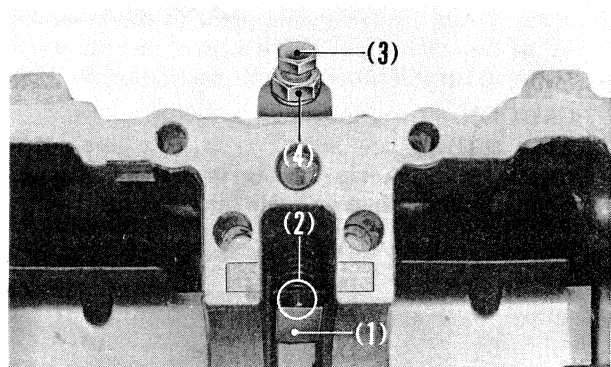

Fig. 4-78 (1) Cam chain tensioner push bar
- 1. First tighten the cam chain tensioner setting bolt with the tensioner push bar pushed and the mark facing as shown in Fig. 4-78.